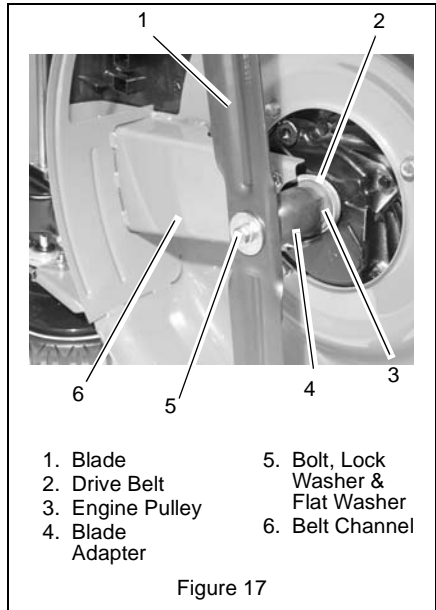

Figure 17
8. Remove the belt from the engine pulley, and then pull the belt through the belt channel. See Figure 17.